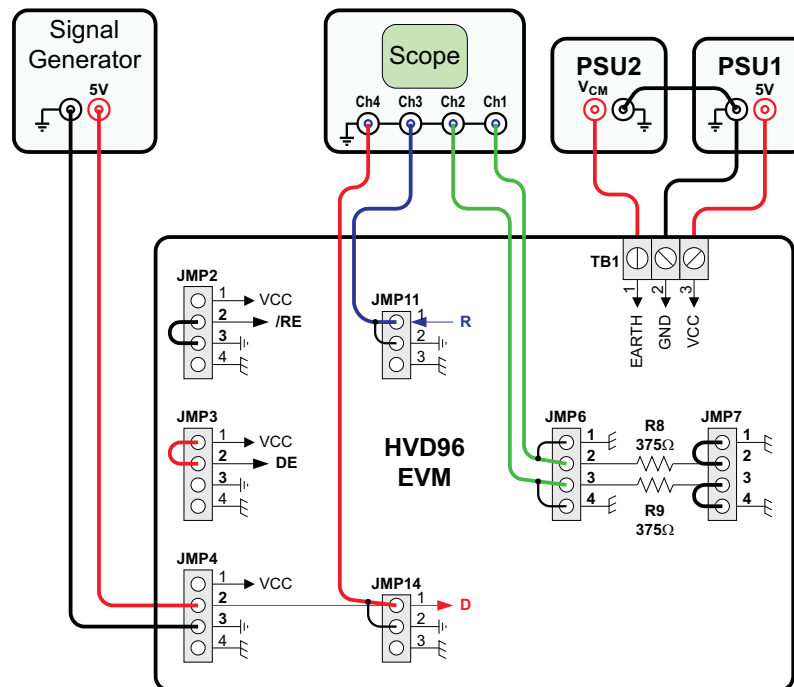

Figure 8. EVM Set-up for Maximum Loading
- replace the previous wire-bridge at TB1 with a second power supply unit (PSU2) and connect the ground terminals of both, PSU1 and PSU2 with a wire-bridge, as shown in Figure 8.
Note that Figure 8 only shows the wiring of PSU2 for positive common-mode voltages. For negative V_{CM} , connect the ground terminal of PSU2 with pin 1 of TB1 (Earth), and the V_{CM} -output of PSU2 with the ground terminal of PSU1.